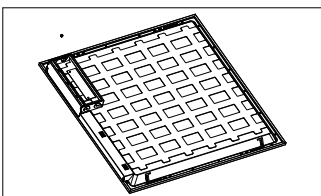

Fig. 3
- (3). Secure the accessory with the included screw. (Fig. 3)